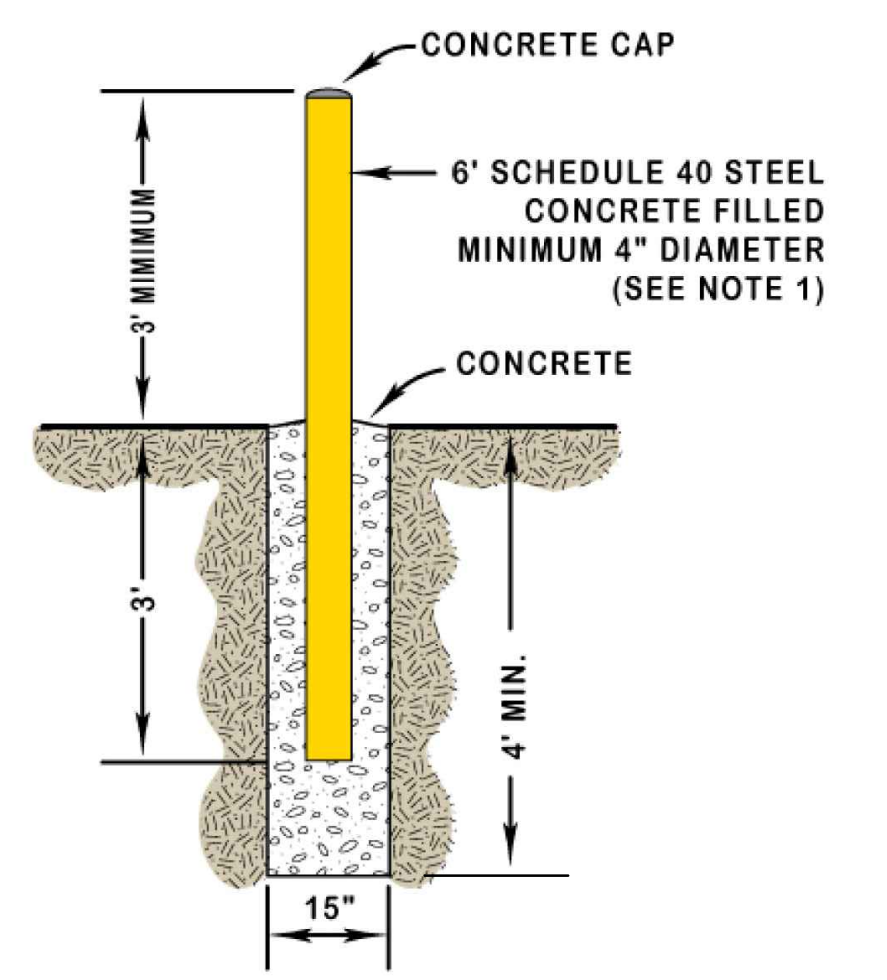

Figure 1
- Figure 1: 6 inch diameter pipe if heavy truck traffic is anticipated. Schedule 40 steel and concrete filled. (560-c-3250)